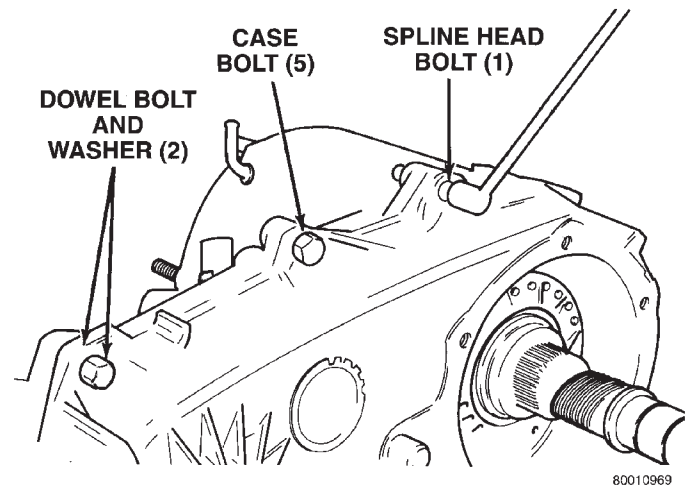

Fig. 17 Spline And Dowel Bolt Locations
(12) Remove bolts attaching rear case to front case (Fig. 17). Note position of the two black finish bolts at each end of the case. These bolts go through the case dowels and require a washer under the bolt head.